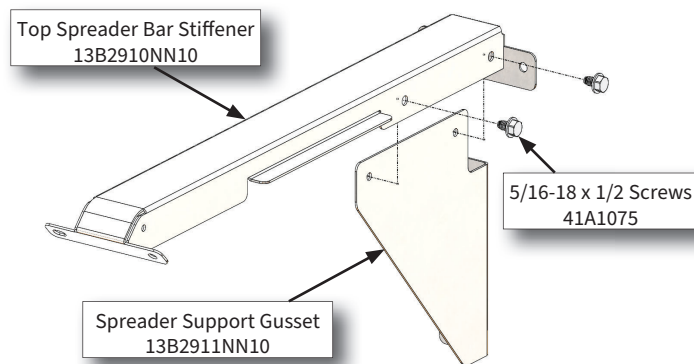

Figure 31: Spreader Support Gusset
2. Position & install the spreader support gusset(s) 13B2911NN10 to the top spreader bar stiffener(s) 13B2910NN10 (Figure 31) using (2) 41A1075 screws. Spreader support gusset(s) attach on inside of the channel of top spreader bar stiffener(s).